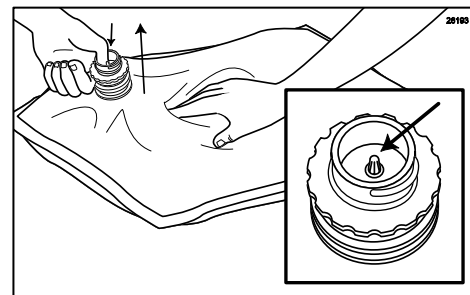

Figure 156
4. Lifting up with the bag fitment, press the center pin of the bag fitment valve and gently press on the bag to release any excess air. (See Figure 156.)